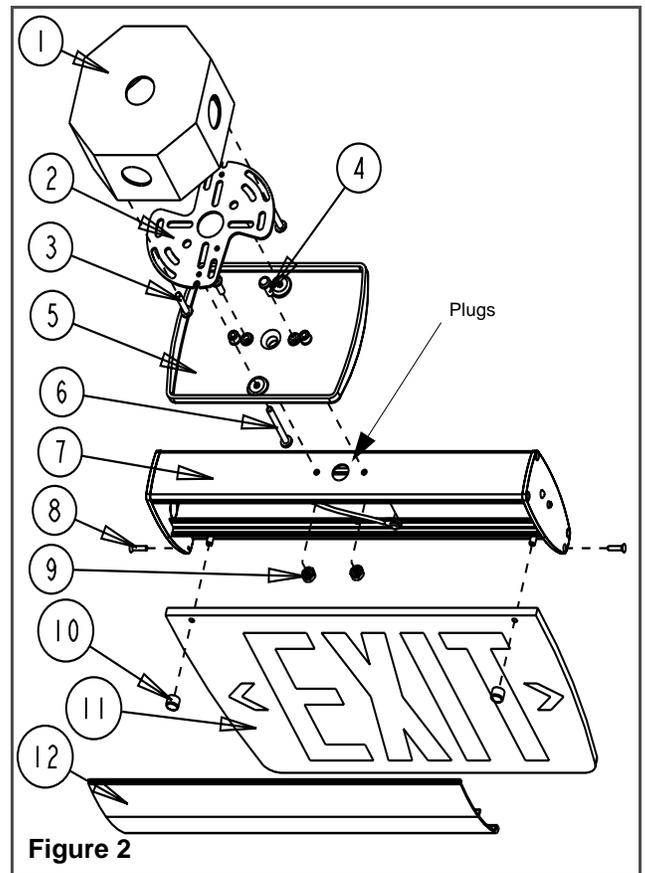

Figure 2
#### Ceiling or End mount (See Figure 2 & 3)
- a. For ceiling mount: remove plugs (see figure 2)